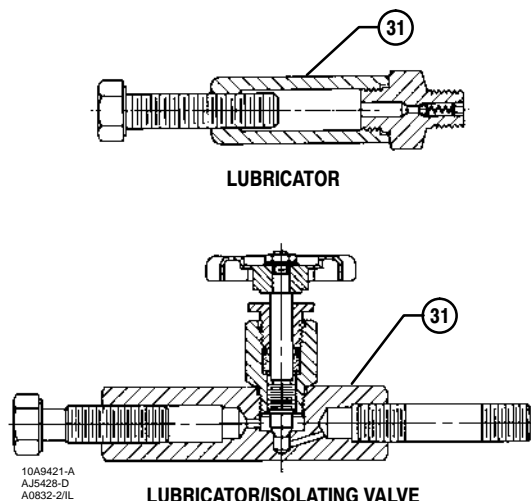

Figure 2. Lubricator and Lubricator/Isolating Valve
If a lubricator or lubricator/isolating valve (figure 2) is provided for PTFE/composition or other packings that require lubrication, it will be installed in place of the pipe plug (key 31, figure 16, 17, or 18). Use a good quality silicon-base lubricant. Packing used in oxygen service or in processes with temperatures over 260°C (500°F) should not be lubricated. To operate the lubricator, turn the cap screw clockwise to force the lubricant into the packing box. The lubricator/isolating valve operates the same way except the isolating valve must first be opened and then closed after lubrication is completed.